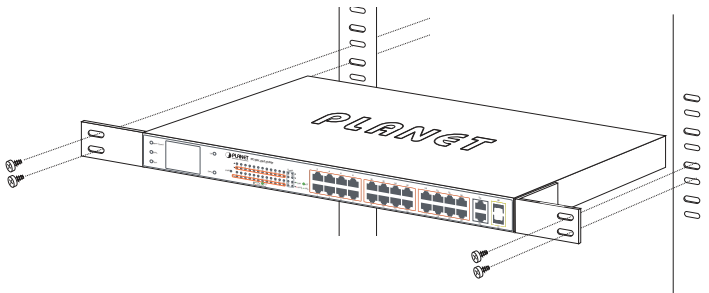

Figure 3-3: Mounting the 802.3at PoE+ Switch in a Rack
**Step 5:** After the brackets are attached to the 802.3at PoE+ Switch, use suitable screws to securely attach the brackets to the rack, as shown in Figure 3-3.